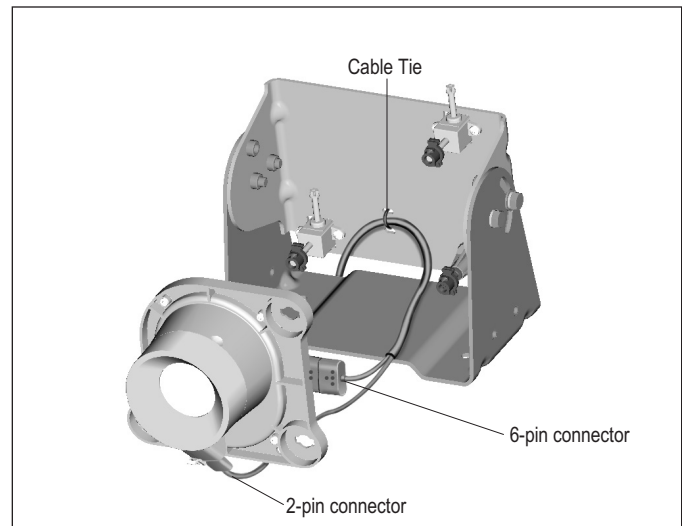

FIGURE 23 - CONNECTING THE IR CAMERA HARNESSES
4. Install new camera. Plug the 2-pin connector of the IR camera harness into the window heater. Refer to Figure 23.
5. Plug the 6-pin connector of the IR camera harness into the IR camera connection. Refer to Figure 23.